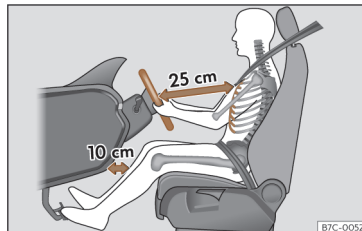

Fig. 16 The correct distance between the driver and the steering wheel must be at least 25 cm (10 inches).
- Adjust the steering wheel so that it is at a distance of at least 25 cm (10 inches) from the sternum >>> Fig. 16 and can hold it with both hands on the sides, on the outside, with the arms slightly flexed.